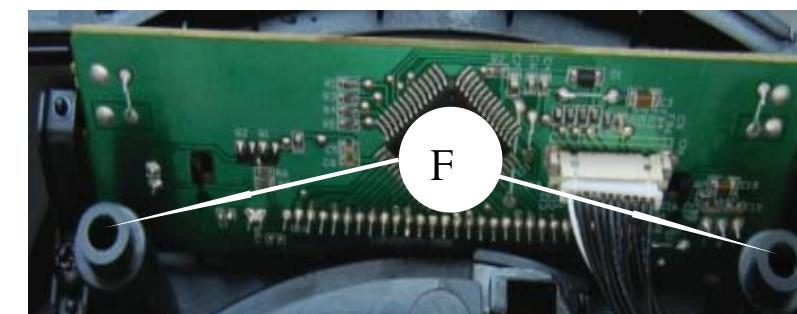

Figure7
- 1) Loosen 2screw "F" detach KEY Board as shown in figure7